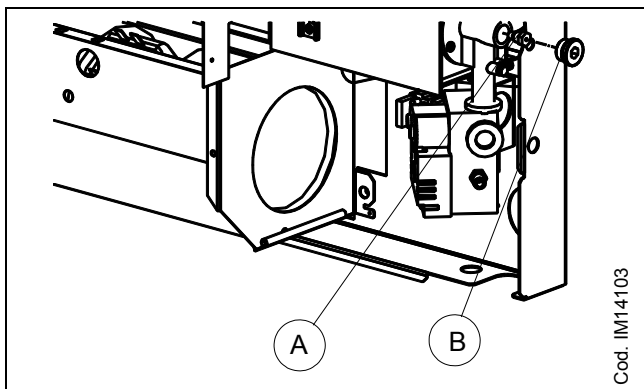
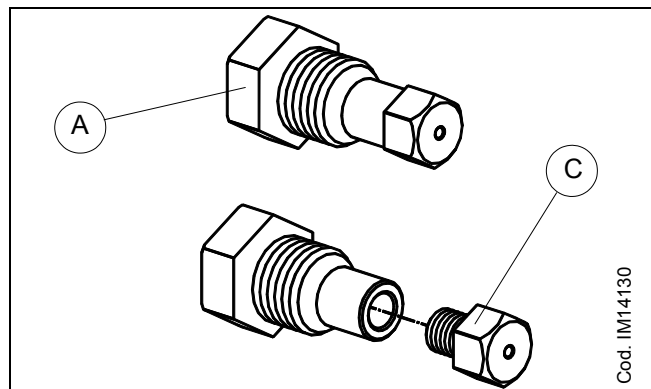

Figure 27 – BURNER ASSY DETAIL
Figure 28 – NOZZLE SUPPORT DETAIL AND GAUGED NOZZLE
1. Unscrew the “B” plug with the help of a no. 19 wrench (see Figure 27).
1. With a n.º 19 wrench, unscrew plug B (see Figure 27).
2. With a socket wrench n.º 10 introduced in the opening, unscrew the “A” (see Figure 27 and Figure 28).